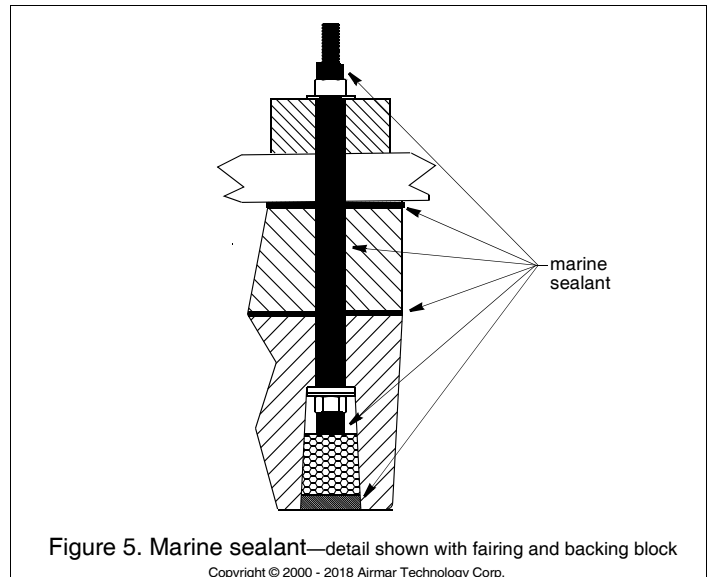

Figure 5. Marine sealant—detail shown with fairing and backing block
1. Marine sealant will seal the hull and hold the nuts securely in place. Apply a 2 mm (1/16") thick layer of marine sealant to the following (Figure 5):